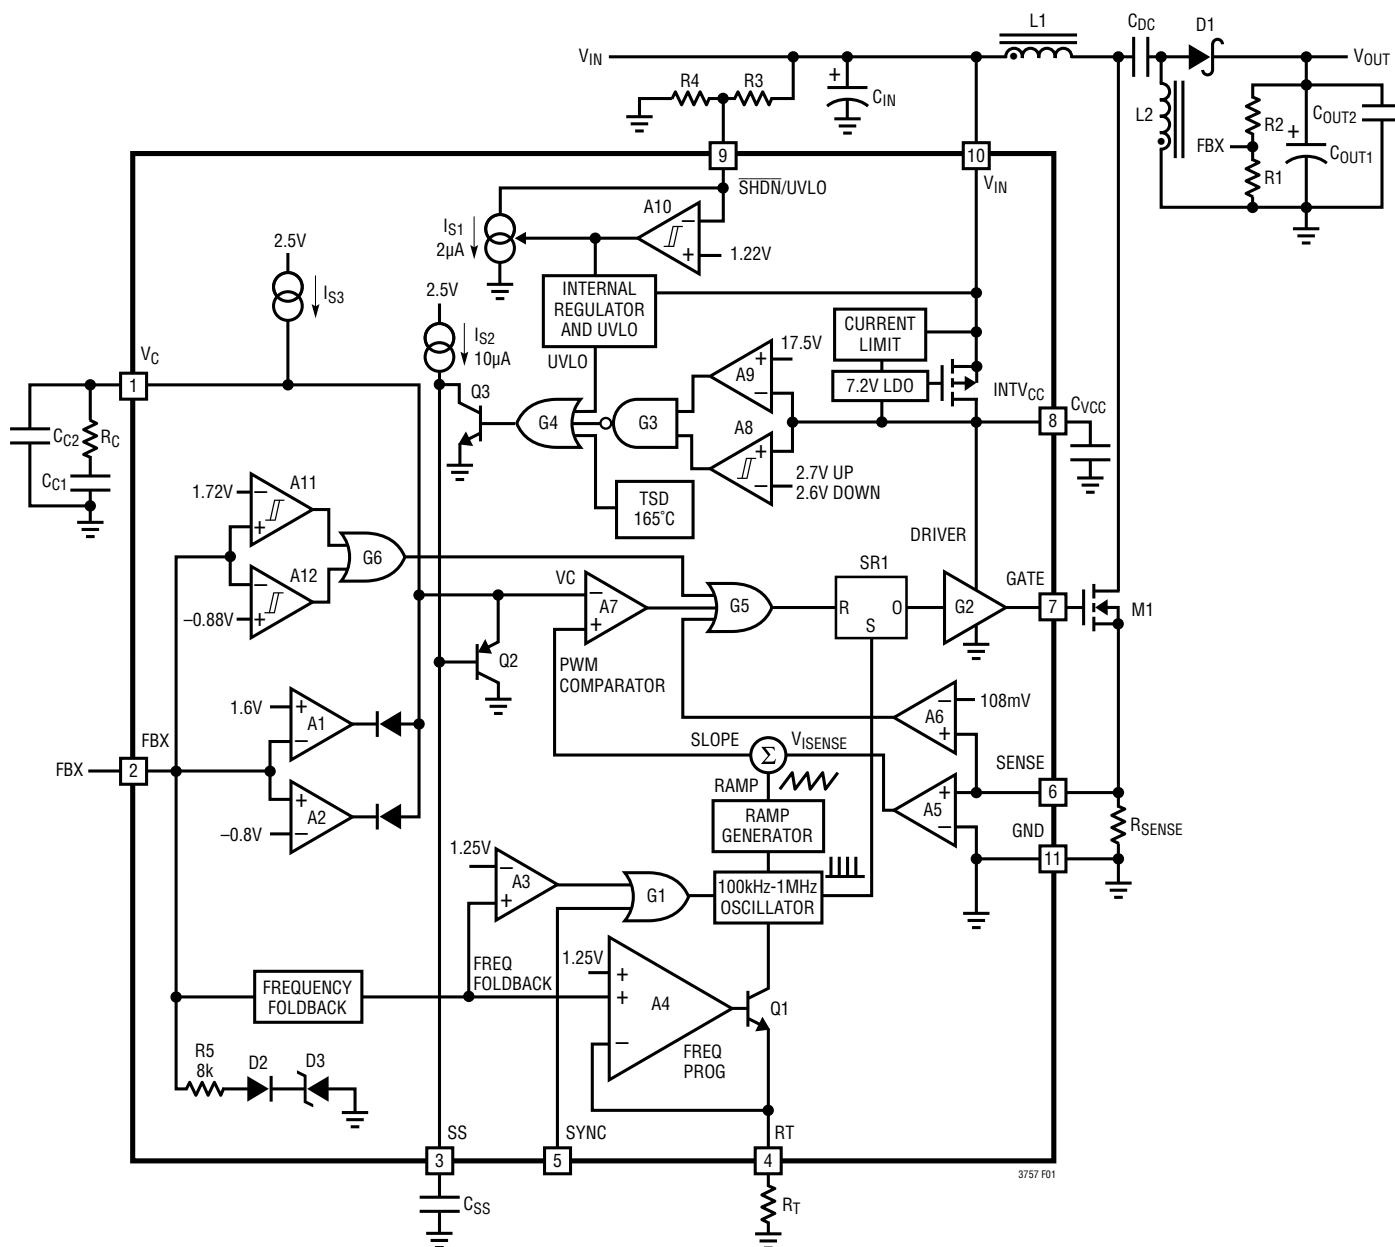

Figure 1. LT3757 Block Diagram Working as a SEPIC Converter
The LT3757 uses a fixed frequency, current mode control scheme to provide excellent line and load regulation. Operation can be best understood by referring to the Block Diagram in Figure 1.
The LT3757 is capable of generating either positive or negative output voltage with a single FBX pin. It can be configured as a boost, flyback or SEPIC converter to generate positive output voltage, or as an inverting converter to generate negative output voltage. When configured as a SEPIC converter, as shown in Figure 1, the FBX pin is pulled up to the internal bias voltage of 1.6V by a voltage divider ($R1$ and $R2$) connected from V_{OUT} to GND. Comparator A2 becomes inactive and comparator A1 performs the inverting amplification from FBX to V_C . When the LT3757 is in an inverting configuration, the FBX pin is pulled down to $-0.8V$ by a voltage divider connected from V_{OUT} to GND. Comparator A1 becomes inactive and comparator A2 performs the noninverting amplification from FBX to V_C .
The purpose of this current is to allow the user to program the rising hysteresis. The Block Diagram of the comparator and the external resistors is shown in Figure 1. The typical falling threshold voltage and rising threshold voltage can be calculated by the following equations:
An internal, low dropout (LDO) voltage regulator produces the 7.2V INTV_{CC} supply which powers the gate driver, as shown in Figure 1. If a low input voltage operation is expected (e.g., supplying power from a lithium-ion battery or a 3.3V logic supply), low threshold MOSFETs should be used. The LT3757 contains an undervoltage lockout comparator A8 and an overvoltage lockout comparator A9 for the INTV_{CC} supply. The INTV_{CC} undervoltage (UV) threshold is 2.7V (typical), with 100mV hysteresis, to ensure that the MOSFETs have sufficient gate drive voltage before turning on. The logic circuitry within the LT3757 is also powered from the internal INTV_{CC} supply.
The choice of operating frequency may be determined by on-chip power dissipation, otherwise it is a trade-off between efficiency and component size. Low frequency operation improves efficiency by reducing gate drive current and MOSFET and diode switching losses. However, lower frequency operation requires a physically larger inductor. Switching frequency also has implications for loop compensation. The LT3757 uses a constant-frequency architecture that can be programmed over a 100kHz to 1000kHz range with a single external resistor from the RT pin to ground, as shown in Figure 1. The RT pin must have an external resistor to GND for proper operation of the LT3757. A table for selecting the value of R_T for a given operating frequency is shown in Table 1.
The output voltage (V_{OUT}) is set by a resistor divider, as shown in Figure 1. The positive and negative V_{OUT} are set by the following equations:
In the applications where V_{OUT} is pulled up by an external positive power supply, the FBX pin is also pulled up through the R2 and R1 network. Make sure the FBX does not exceed its absolute maximum rating (6V). The R5, D2, and D3 in Figure 1 provide a resistive clamp in the positive direction. To ensure FBX is lower than 6V, choose sufficiently large R1 and R2 to meet the following condition:
The LT3757 addresses this mechanism with the SS pin. As shown in Figure 1, the SS pin reduces the power MOSFET current by pulling down the V_C pin through Q2. In this way the SS allows the output capacitor to charge gradually toward its final value while limiting the start-up peak currents. The typical start-up waveforms are shown in the Typical Performance Characteristics section. The inductor current I_L slewing rate is limited by the soft-start function.
The optimum values depend on the converter topology, the component values and the operating conditions (including the input voltage, load current, etc.). To compensate the feedback loop of the LT3757/LT3757A, a series resistor-capacitor network is usually connected from the V_C pin to GND. Figure 1 shows the typical V_C compensation network. For most applications, the capacitor should be in the range of 470pF to 22nF, and the resistor should be in the range of 5k to 50k. A small capacitor is often connected in parallel with the RC compensation network to attenuate the V_C voltage ripple induced from the output voltage ripple through the internal error amplifier. The parallel capacitor usually ranges in value from 10pF to 100pF. A practical approach to design the compensation network is to start with one of the circuits in this data sheet that is similar to your application, and tune the compensation network to optimize the performance. Stability should then be checked across all operating conditions, including load current, input voltage and temperature.